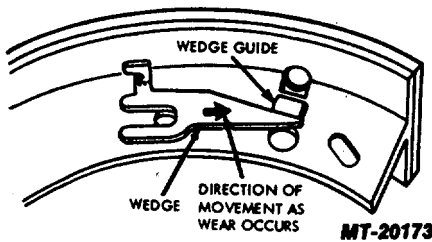

Fig. 4
1. Position wedge guide in shoe web hole on side away from brake backing plate, with serrations facing away from shoe table. Lay wedge with serrations matched against guide and slot aligned over the lever pivot pin hole shoe web (Fig. 4).